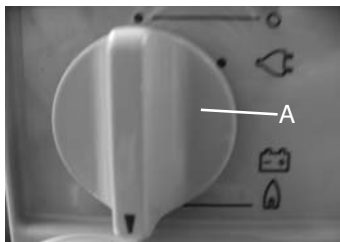

Figure 5
11. Igniting the gas burner (Fig. 5, 6, 7.)